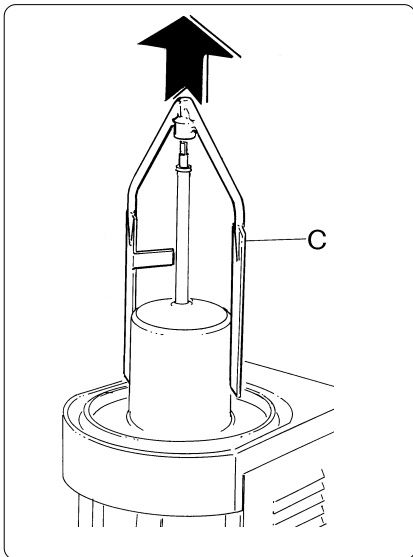

Fig. 4
- Remove the mixing blade (C) by pulling it upward (fig. 4).